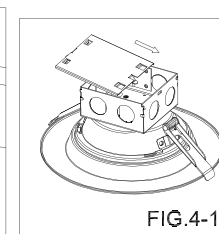
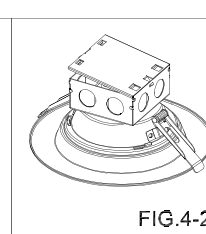
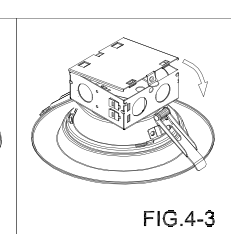

FIG.4-1
FIG.4-2
FIG.4-3
- Snap the cover back to the junction box. (FIG4-1, FIG4-2, FIG4-3)